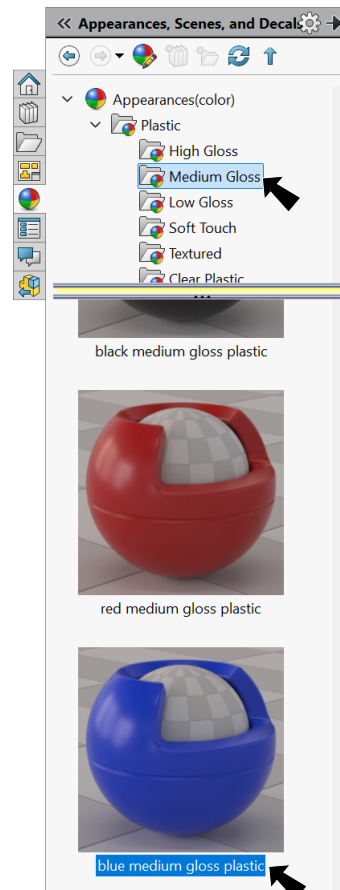

Fig. 22
Step 2. In the Appearances Task pane, expand **Plastic**, click **Medium Gloss** and in the lower pane select **blue medium gloss plastic**, Fig. 22.